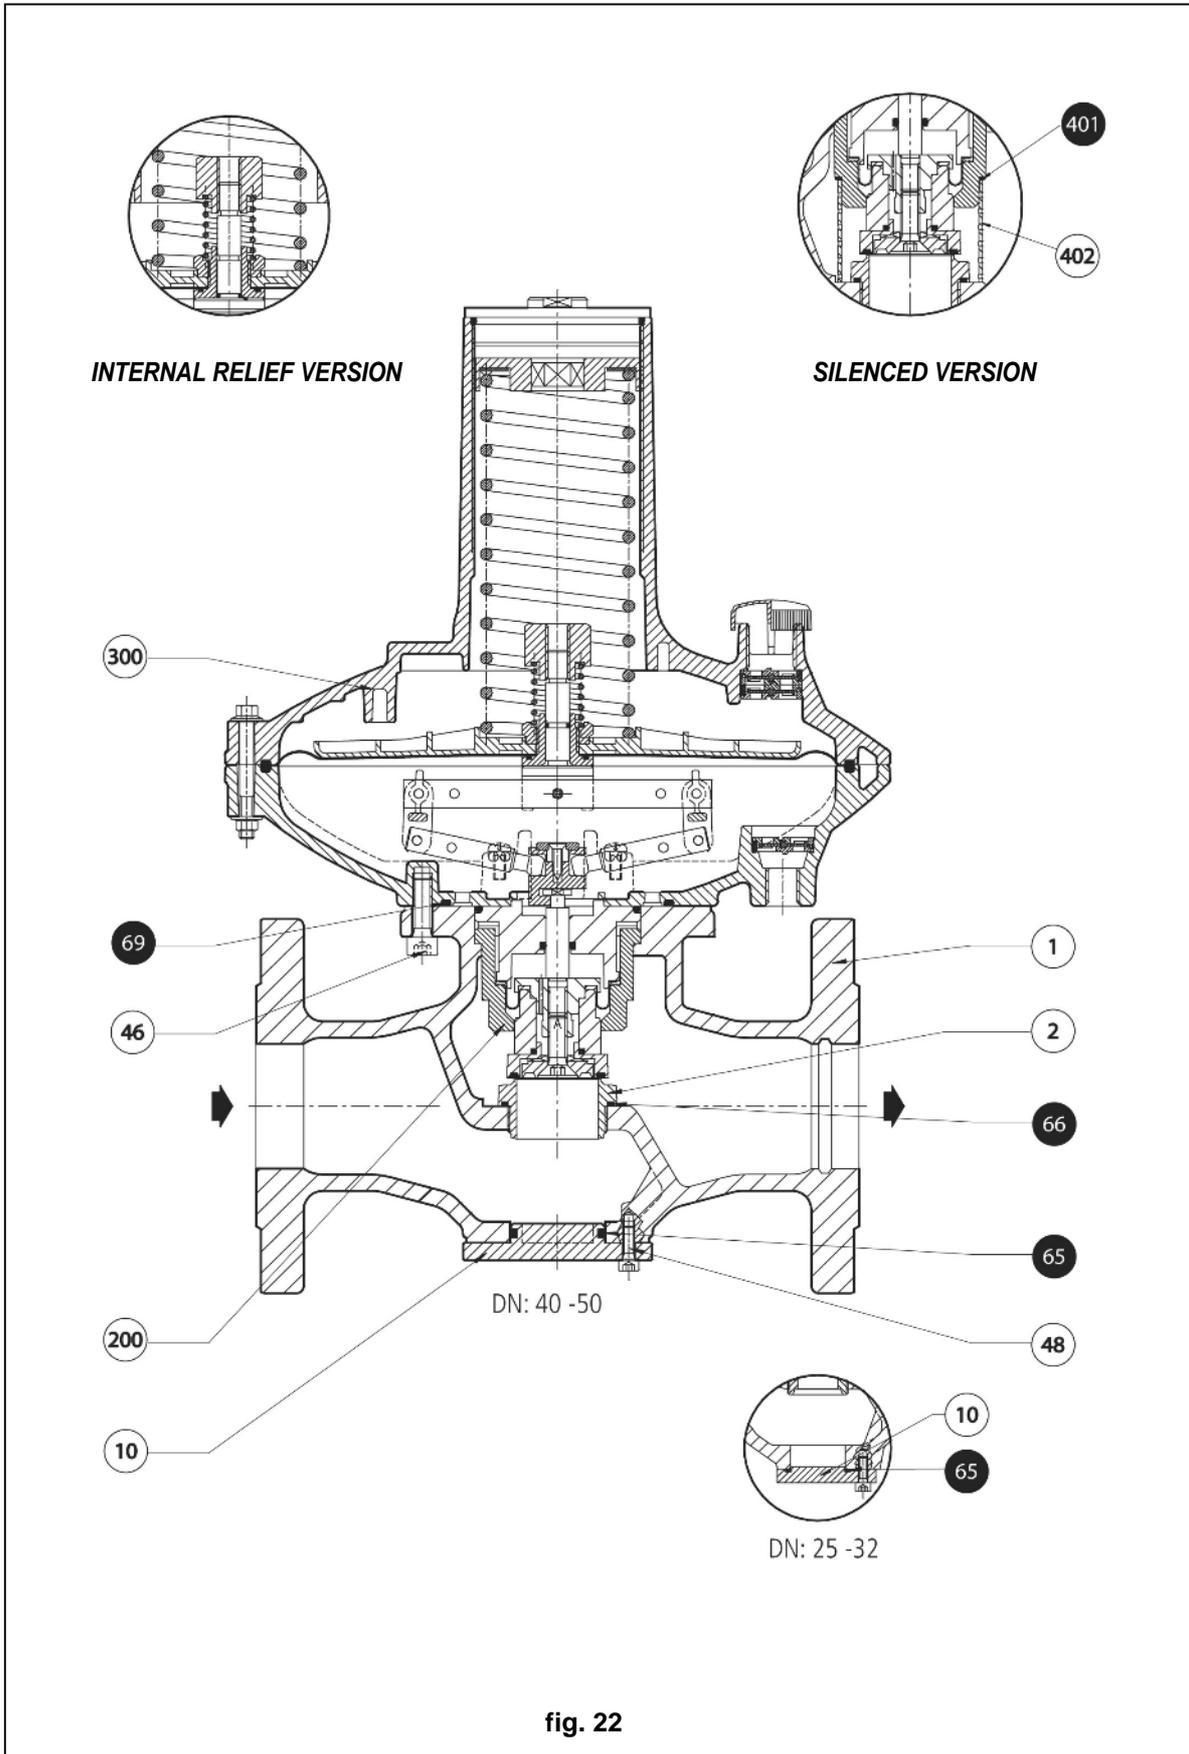

fig. 22
**6.1 Tab. 8 DIVAL 600 REGULATOR (fig. 22, 23, 24, 25 and 26)**